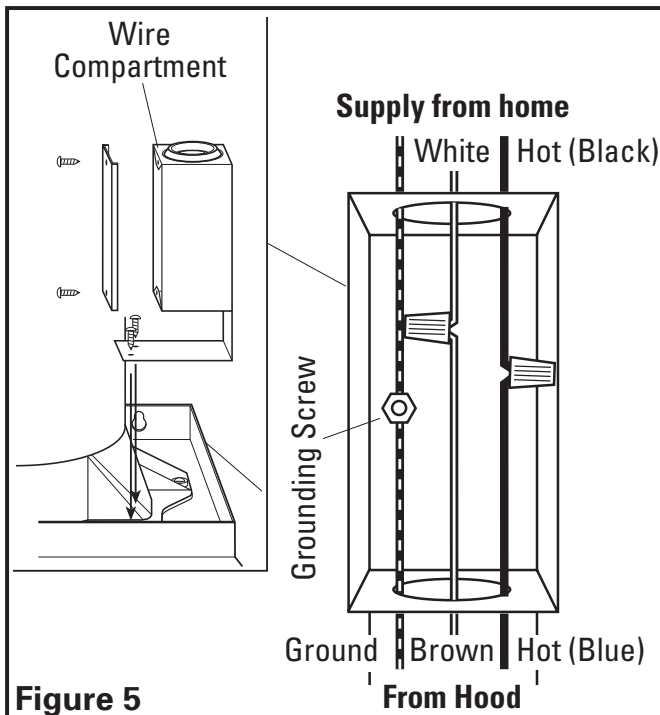

Figure 5
1. Attach wire compartment to the hood with two of the provided 3.9 x 13 mm screws. Remove wire compartment cover and connect the Brown wire (on some models this wire will be white) from the range hood to the White wire from the supply, and the Blue wire (on some models this wire will be black) from the range hood to the Black wire of the supply. Connect the ground wires from the home (green or bare) and the hood (green/yellow) to the grounding screw in the wire compartment. Use approved methods for all connections (**Figure 5**).